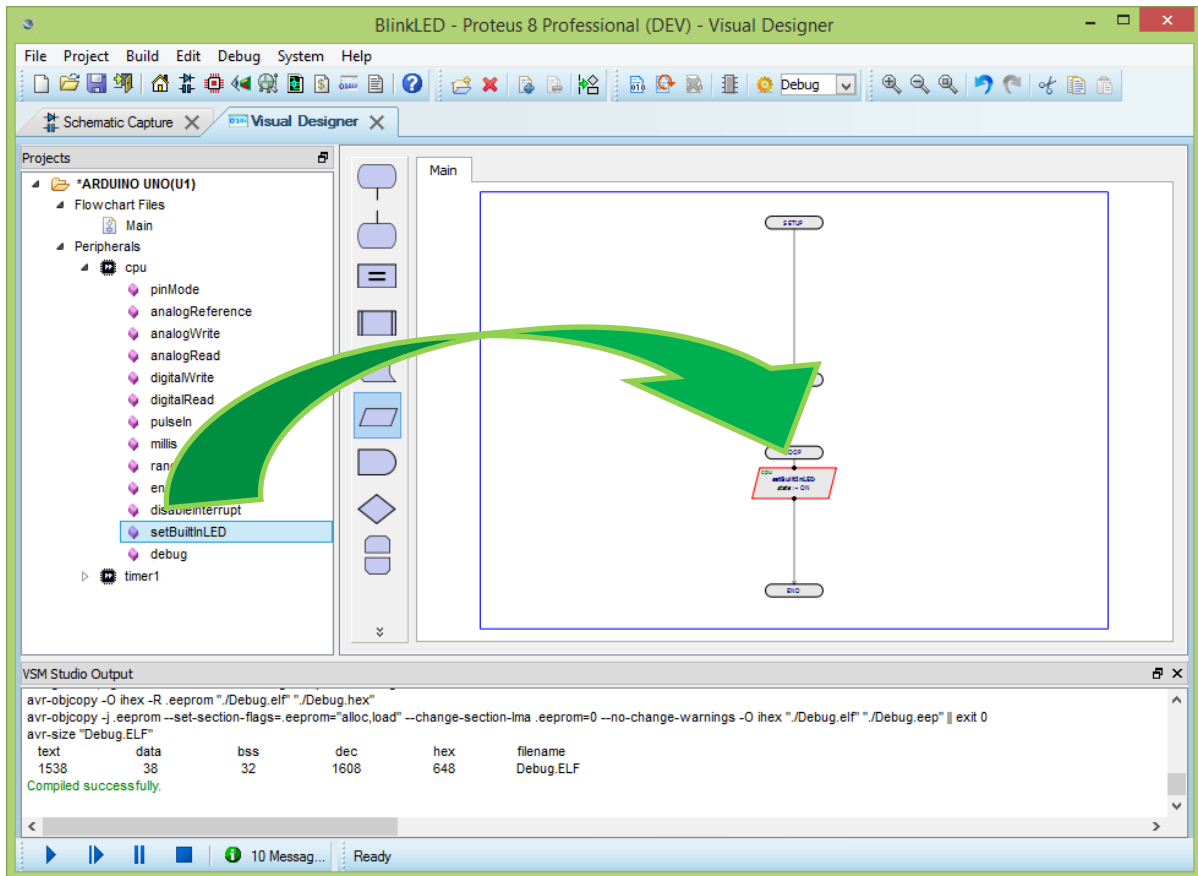

Figure 2-12: Adding the "setBuiltInLED" method to the flowchart
Step 1: Drag a “setBuiltInLED” method from the CPU peripheral into the flowchart **Loop** routine (Figure 2-12). The method is named “setBuiltInLED” because it can be used to turn a built-in LED on or off (this is discussed in section 2.7.1 – feel free to read that section and then come back if you are curious).